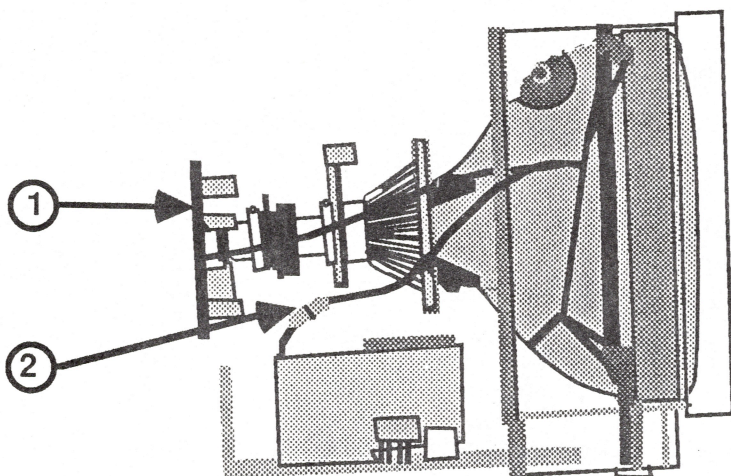

FIGURE 9
4. Carefully pull the CRT socket board (Figure 9, #1) away from the CRT neck until it clears the neck base.
7. Disconnect the white CRT ground strap at its plug-in connector (Figure 9, #2).